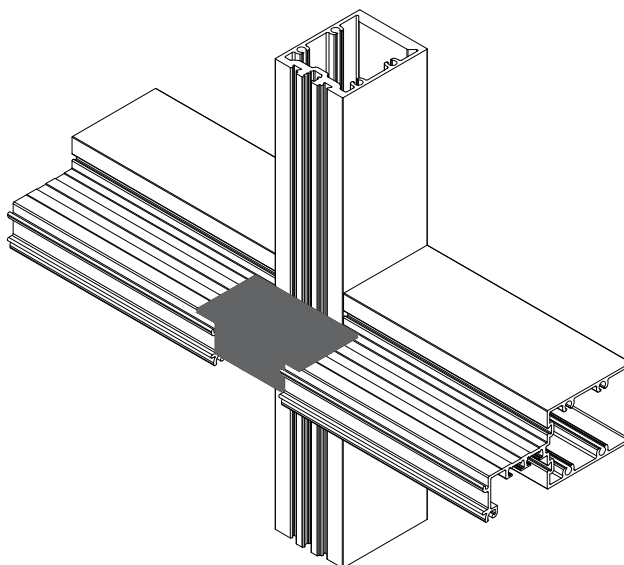

FIG. 3
- Seal around edges of water diverter. **THIS IS A CRITICAL SEAL.** Do not seal front of water diverter. See **FIG. 3**.
- Apply structural sealant as shown in **FIG. 3**.